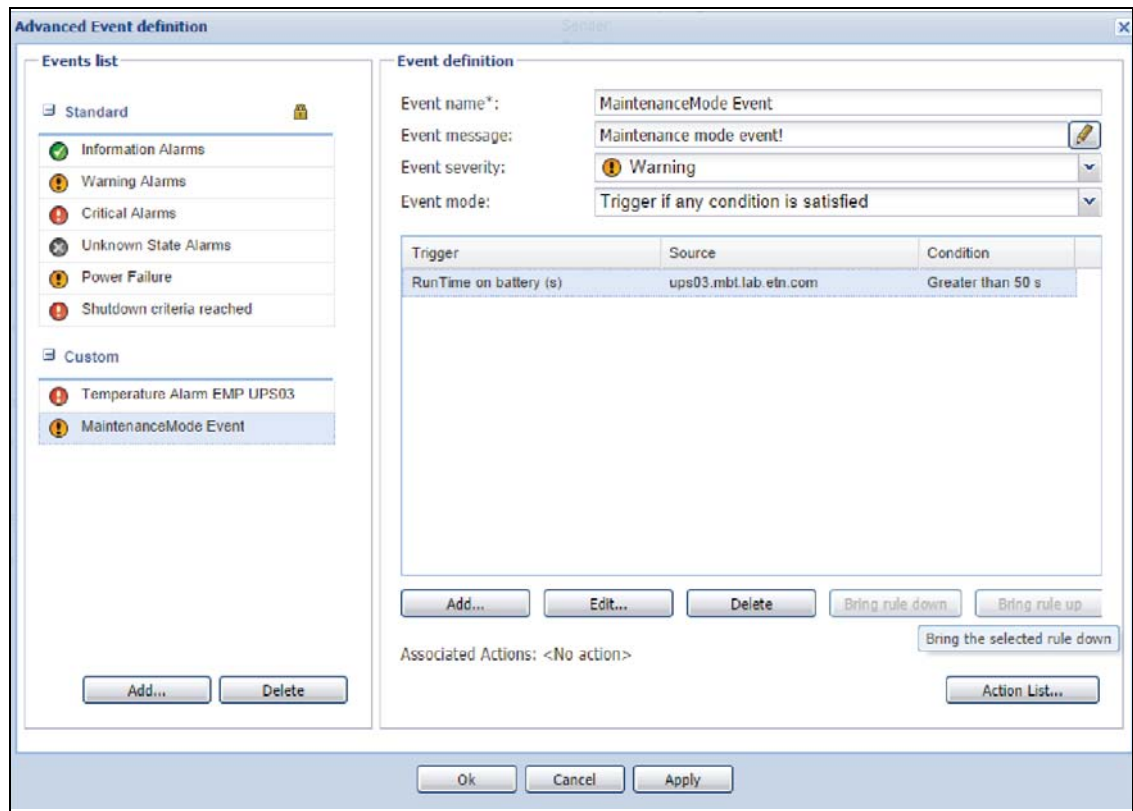
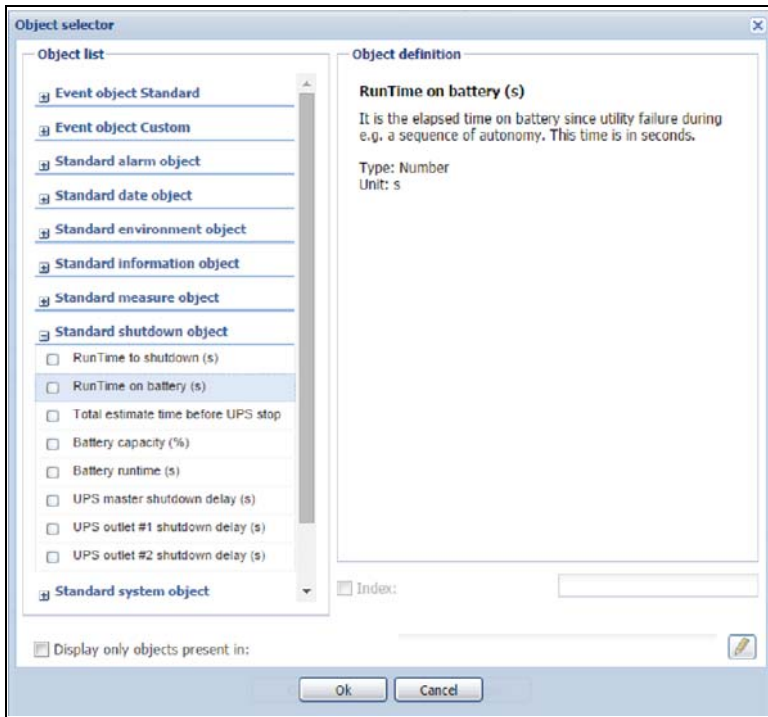

Figure 243. Advanced Event Definition
Figure 244. Object Runtime on Battery
3. Add a custom event (see Figure 243 and Figure 244).